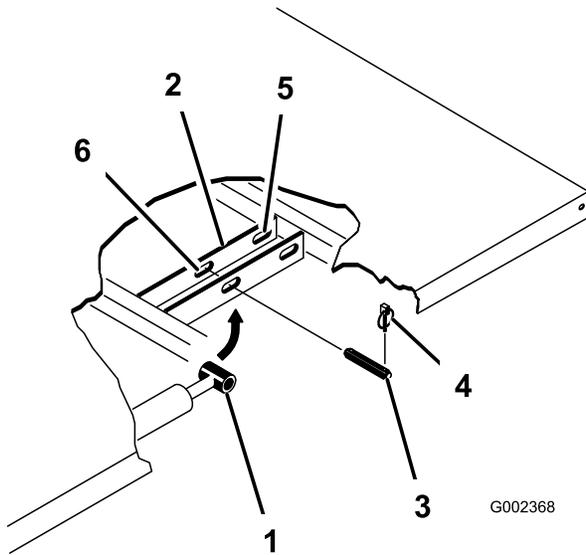

Figure 33
3. Remove the lynch pins from the outer ends of the cylinder rod clevis pins (Figure 33).
4. Remove the clevis pins securing the cylinder rod ends to the bed-mounting plates by pushing the pins toward the inside (Figure 33).
5. Remove the lynch pins and clevis pins securing the pivot brackets to the frame channels (Figure 33).